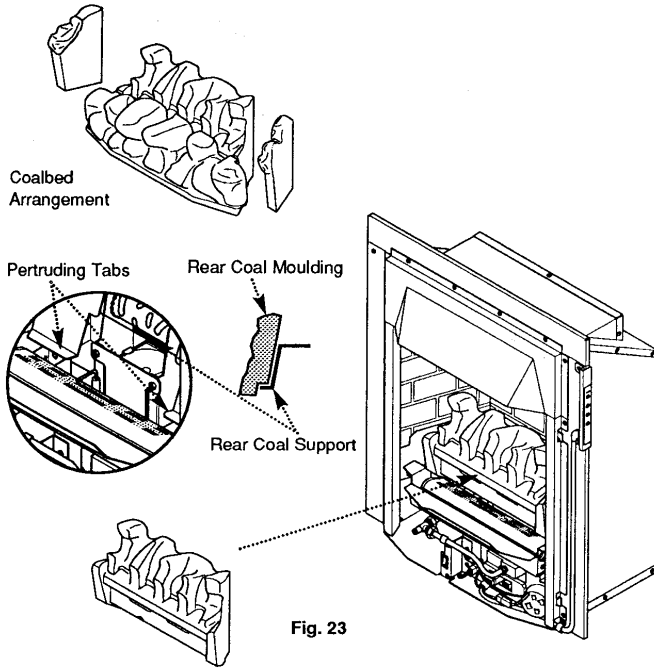

Fig. 23
1. Carefully position the rear coal moulding into the rear of the fire. The undercut in the base of the moulding should rest on the pertruding tabs of the rear coal support. The back face of the moulding should come to rest on the front face of the rear coal support and shall be centrally positioned (Fig. 23). Care should be taken that the rear coal moulding does not fall forward at this stage.